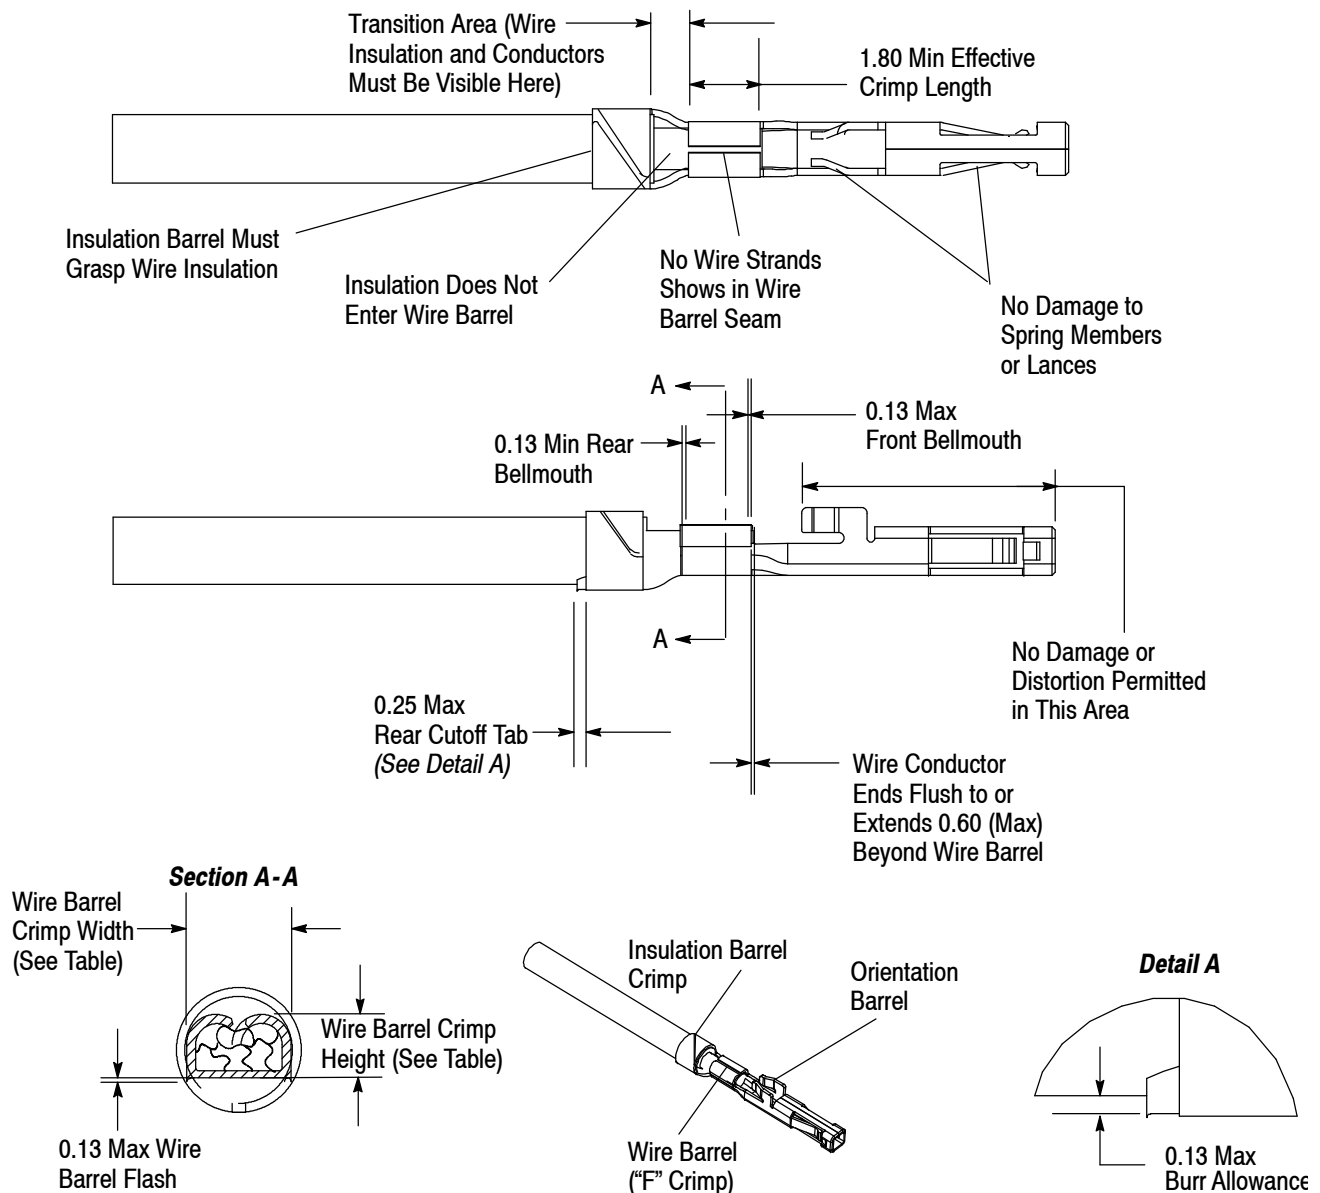

Figure 3
1. The rear cutoff tab must not extend beyond the insulation barrel more than the limits shown in Figure 3.
2. The burr resulting from the cutoff tab shearing must not exceed the dimension shown in Figure 3.
The locking lances must be free of damage as shown in Figure 3.
There must be no damage or distortion to the spring members of the receptacle contacts or the tab end of the tab contact. See Figure 3.
There must be no damage or distortion to the orientation barrel. See Figure 3.
Effective crimp length is defined as that portion of the wire barrel, excluding bellmouths, fully formed by the crimping tool. For optimum crimp effectiveness, the crimp must be within the limits shown in Figure 3.
The seam between the two sides of the wire barrel must be completely closed and there must be no evidence of loose wire strands or wire strands visible in the seam. Refer to Figure 3.
The front and rear bellmouths caused by extrusion of the contact material during crimping must be within the limits shown in Figure 3.
Wire barrel flash is the formation that may appear on both sides of the wire barrel as the result of crimping. It must not exceed the dimension provided in Figure 3.
The two legs of the insulation barrel must completely grasp the wire insulation. The two legs of the insulation barrel must not overlap on top of one another. Refer to Figure 3.
The wire insulation and conductor must be visible within the transition area (between the contact insulation barrel and wire barrel). The insulation must not enter the wire barrel. The wire conductor ends must be flush to or extend slightly beyond the wire barrel to the limit provided in Figure 3.